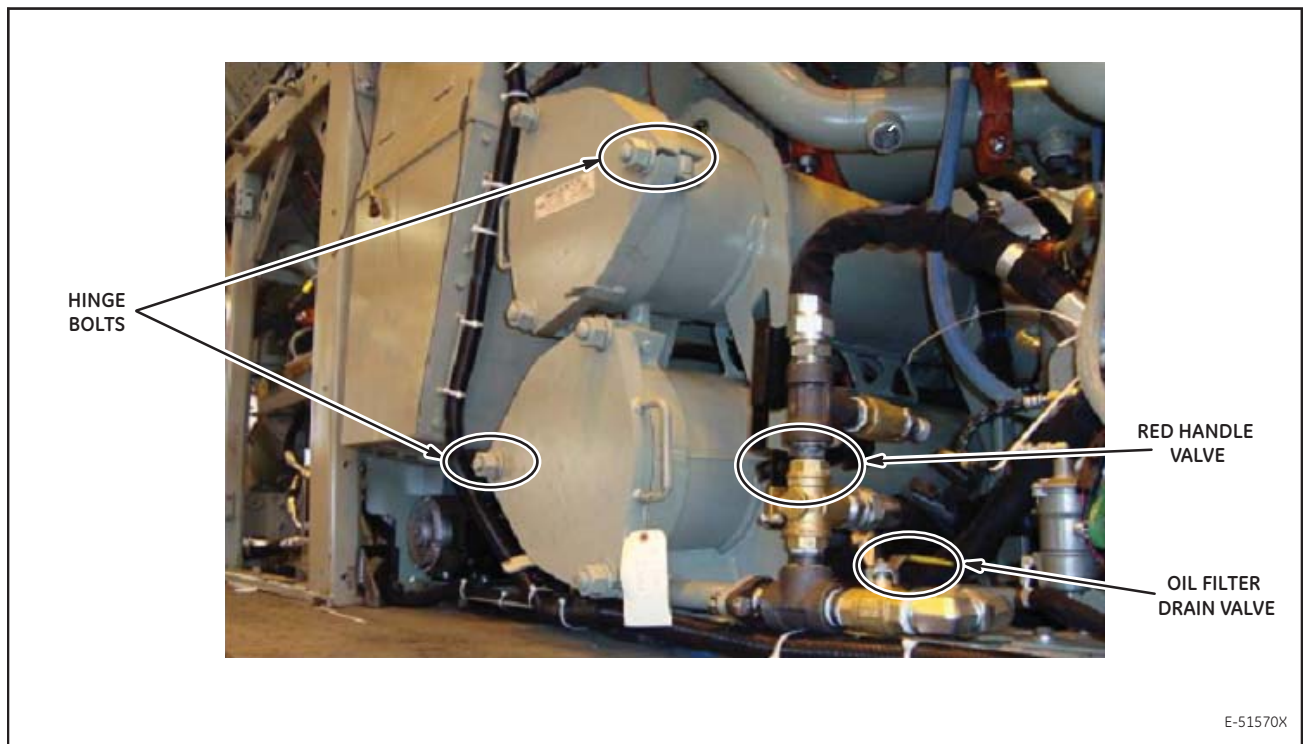

Figure 5. Lube Oil Filter Housing (PH37ACmi Unit shown).
2. After filling oil to the top rail and before cranking the engine, rotate the red-handled valve down (Figure 5) and turn-on the pre-lube pump to fill the Air-To-Oil Heat Exchanger (filter, cooler, etc.) with oil.
3. After filling oil to the top rail and before cranking the engine, rotate the red-handled valve down (Figure 5) and turn-on the pre-lube pump to fill the Air-To-Oil Heat Exchanger (filter, cooler, etc.) with oil.
A sufficient supply of clean oil is a critical requirement to keep the P616 engine running efficiently and reliably. To satisfy this requirement, there is a filter housing (Figure 5) with two canisters located on the skid in the Radiator Cab. The oil filter assembly consists of two steel tanks (oil filter canisters), each with a two-piece, twelve-micron two-stage filter element. A gradual drop in oil flow and reduction in oil pressure indicates that the oil filter elements have